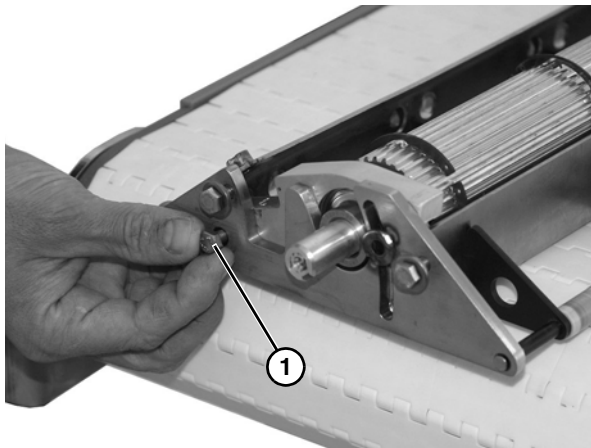

Figure 36
3. Remove screw (**Figure 36, item 1**). Repeat on opposite side.